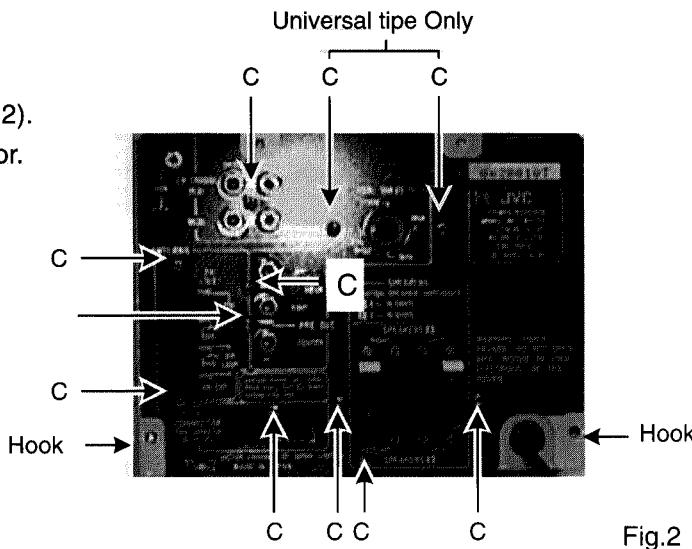

Fig.2
1. Remove 9 screws(C) fastening rear panel (Fig.2).
2. Remove 2 screws(C) fastening Voltage selector. (Universal type only)